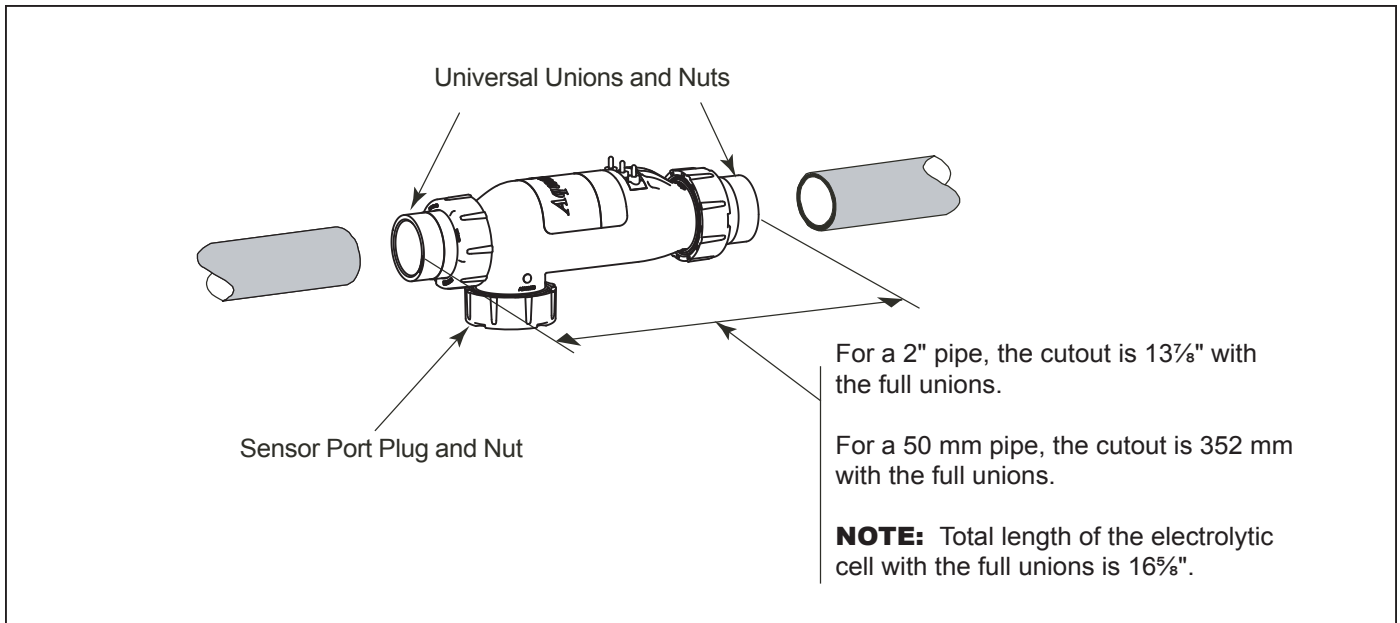

Figure 12. Pipe Cutout
5. Cut out a 137/8" (352 mm) section of the 2" (50 mm) pipe to insert the Cell. See Figure 12. Glue on unions and install cell.